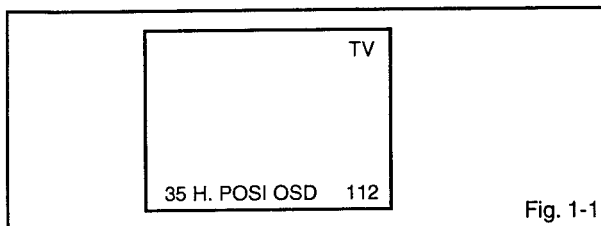

Fig. 1-1
1. In the condition of NO indication on the screen. Press the VOL. DOWN button on the set and the Channel button (9) on the remote control for more than 2 seconds to appear the adjustment mode on the screen as show in FIG. 1-1.
4. Activate the adjustment mode display of Fig. 1-1 and press the channel button (01) on the remote control to select "RF AGC".
2. Activate the adjustment mode display of Fig. 1-1 and press the channel button (00) on the remote control to select "CUT OFF".
4. Activate the adjustment mode display of Fig. 1-1 and press the channel button (04) on the remote control to select "R CUT OFF".
3. Activate the adjustment mode display of Fig. 1-1 and press the channel button (08) on the remote control to select "H POSI(50)".
7. Activate the adjustment mode display of Fig. 1-1 and press the channel button (39) on the remote control to select "H POSI(60)".
3. Activate the adjustment mode display of Fig. 1-1 and press the channel button (11) on the remote control to select "V SIZE(50)".
7. Activate the adjustment mode display of Fig. 1-1 and press the channel button (12) on the remote control to select "V SIZE(60)".